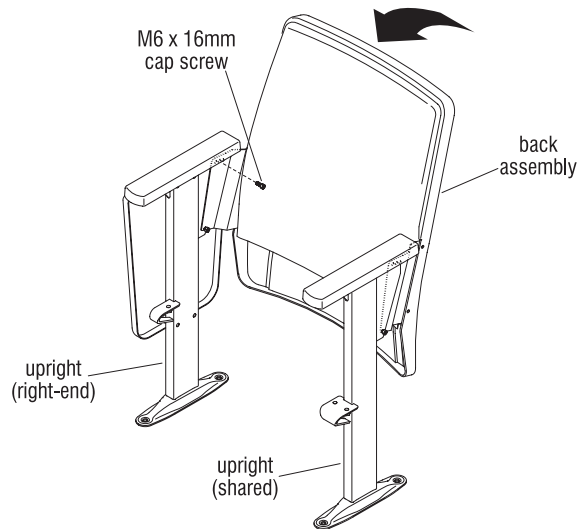

Figure 3
4. With the bottom of the back bracket nested on the screws, rotate the top of the back assembly forward and align the desired set of upper holes in the back bracket with the holes in the top of the upright bracket (right-end). At this time, loosely insert the M6 x 16mm cap screw to hold the back bracket to the right-end upright (Figure 3).